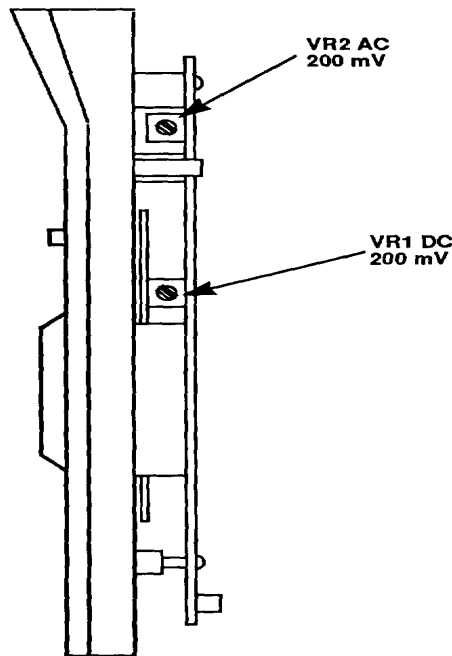

Figure 1. Adjustment locations.
(1) Connect calibrator **OUTPUT** terminals to TI **V-W** and **COM** terminals and set TI function/range dial to **DCV 2**.
(2) Set TI function/range dial and calibrator output as specified in table 3. If TI does not indicate within the specified limits, perform **b** below.
b. Adjustments. Set TI function/range dial to **DCV 200m** and calibrator for a 190 mV dc output. Adjust VR1 DC 200 mV (fig. 1) for a TI indication of 190.0 mV (R).
(1) Ensure calibrator **OUTPUT** terminals are connected to TI **V-W** and **COM** terminals and set TI function/range dial to **ACV 2**.
(2) Set TI function/range dial and calibrator for voltages and frequencies listed in table 4. TI will indicate within the specified limits; if not, perform **b** below.
b. Adjustments. Set TI function/range dial to ACV 200m and calibrator for a 190 mV, 400 Hz output. Adjust VR2 AC 200 mV (fig. 1) for a TI indication of 190.0 mV (R).